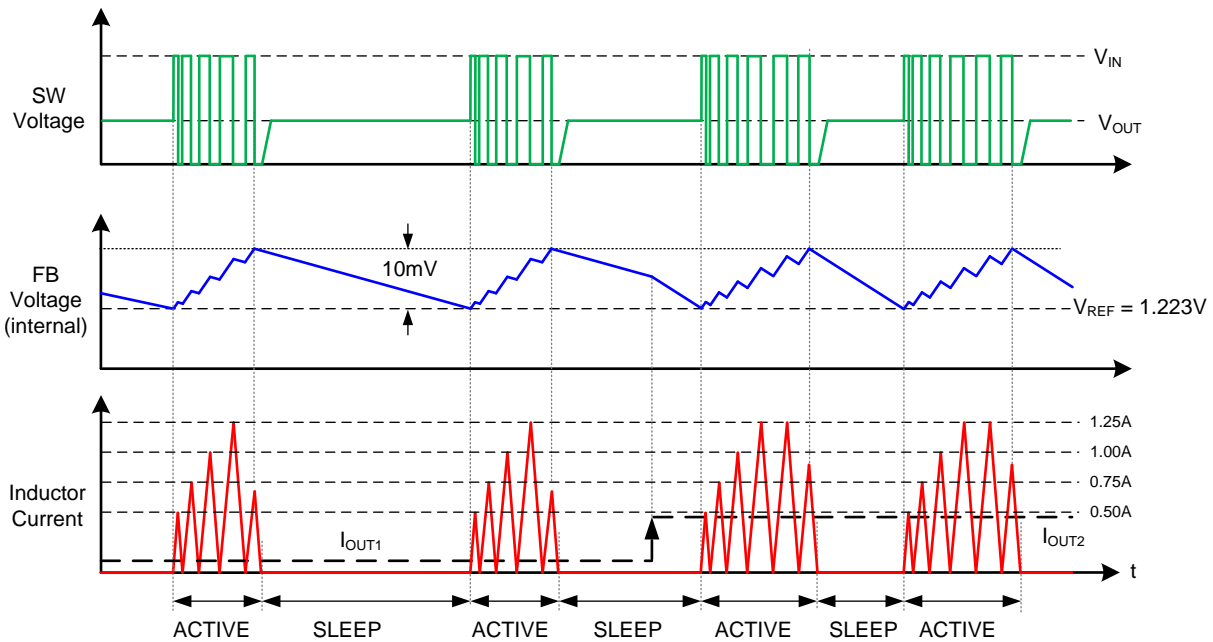

FIG 42. PFM Mode With Modulated I_{LIM} , Output Voltage and Inductor Current Representative Waveforms
One of the supported ILIM settings enables a function that modulates the peak current threshold levels during the first three switching cycles of each active period as illustrated in Figure 42. This function improves efficiency under most application conditions at the expense of slightly degraded load transient response.
- (1) For this current limit threshold selection, the ILIM pin may also be left open instead of using a 100-k Ω or greater resistor.
- (2) This I_{LIM} setting enables a function that modulates the I_{LIM} levels during the first three switching cycles as illustrated in 图 42.